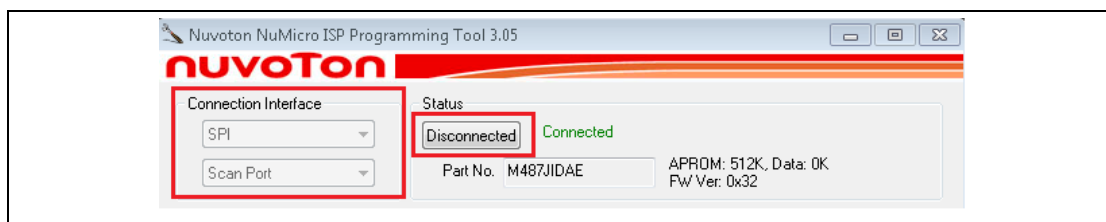
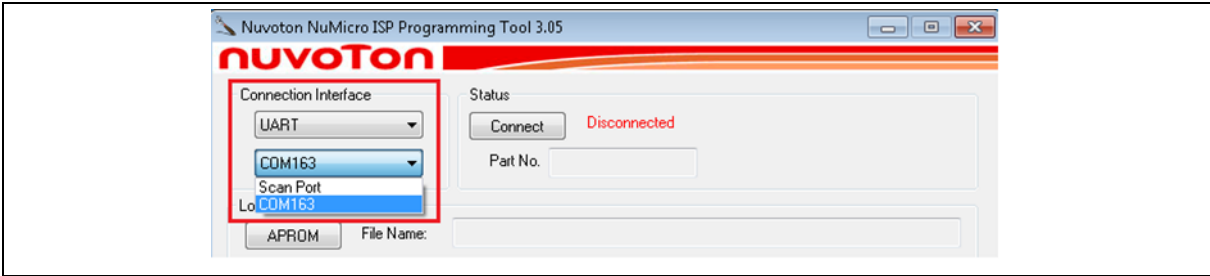

Figure 5.2-51 Connect to Target Chip with SPI Interface
Figure 5.2-52 Select VCOM Port Number with UART Interface
- (10) Open ISP programming tool, click **Connect** button, and reset the target chip to run ISP code. ISP programming tool will connect to target chip. For example, SPI connection interfaces as shown in Figure 5.2-51. For UART connection interface, user needs to select VCOM port number as shown in Figure 5.2-52. All of connection interfaces that provided by ISP tool can connect to target chip by using above steps except USB interface.